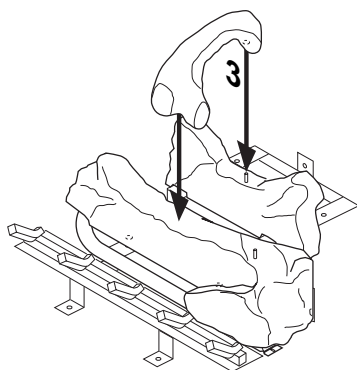

Figure 47 - Installing Log No. 3
3. Place log #3 (crossover log) onto rear and front logs. Make sure it is seated properly on smooth surface on front log and on pin on back log as shown in Figure 47.